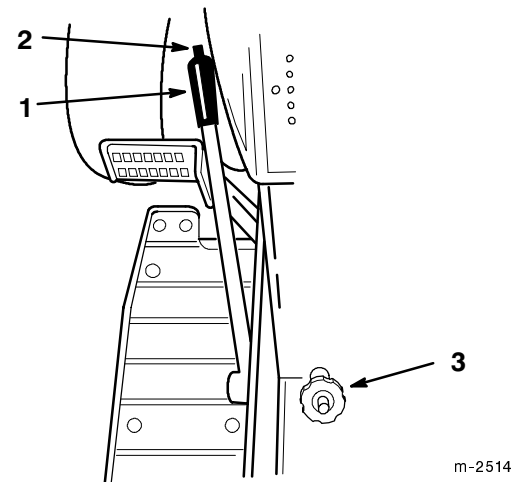

Figure 13
2. Pull the attachment lift lever rearward until the blade raises and the latch locks (Fig. 13).
2. Pull attachment lift lever rearward, to release lift pressure and push the button on top to release the latch (Fig. 13).
3. Move the lift lever forward to lower the blade (Fig.13).
The Dial-A-Height control (Fig. 13) is used to adjust the downward travel of the attachment.